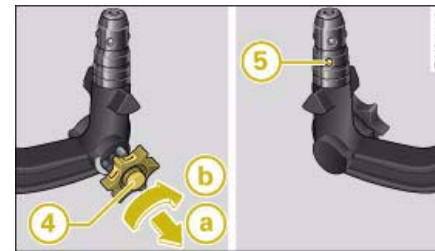

Fig. 210 Removable towing bracket: Setting the spring mechanism to the "ready" position
- Insert the key ④ => fig. 210 for locking the ball joint into the lock on the knob and turn it clockwise.
- Pull out the knob in direction (a), hold and turn in direction (b) until the locking ball (5) engages ⇒ ⚠.